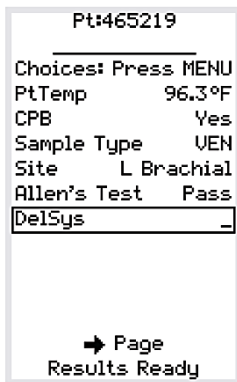
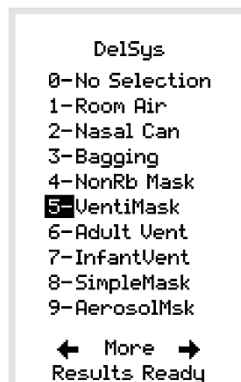

**Figure 4**
**Figure 5**
**Figure 3** shows the custom Chart Page with the first three Chart Page items completed and the Site Selection List item highlighted. Pressing the Menu key displays the available choices for Draw Site (**Figure 4**). Pressing the number key of the desired Draw Site will complete the selection list entry (**Figure 5**).